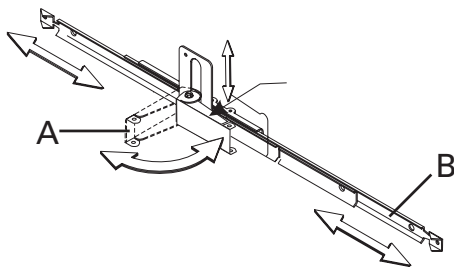

Figure 3
2. Open lever (A), expand bar hangers (B) to approximately 24" and close lever to lock. Refer to Figure 3.